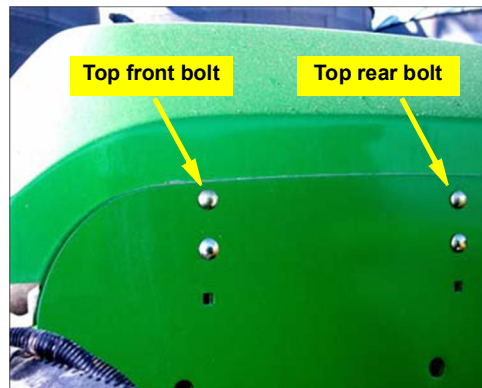

Figure 2a: Top carriage bolts right rear fender
a. Locate the carriage bolts in the right rear fender of the tractor. Remove the top front carriage bolt (Figure 2a).